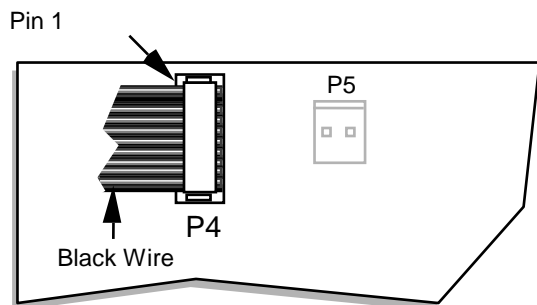

Figure 14
- ❑ Plug one end of the ribbon cable into the Control board at P4. The correct end can be determined from Figure 14. The black wire should be oriented toward the lower end of P4 (away from pin 1). If the indicated end of the ribbon cable cannot be plugged in at P4, the keying insert may be installed at the wrong position.